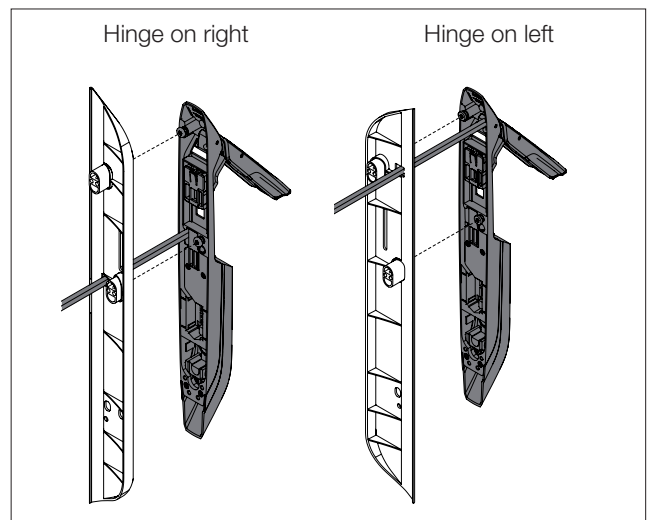

Fig. 20: Attaching the handle to the designer compensating panel
- Attach the handle to the designer compensating panel (fig. 20).